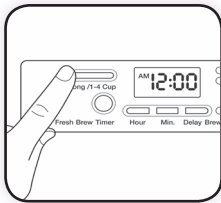

Figure 24
- 3 Press the **Strong/1-4 Cup** button now to activate this feature at the preset later time. (Figure 24)